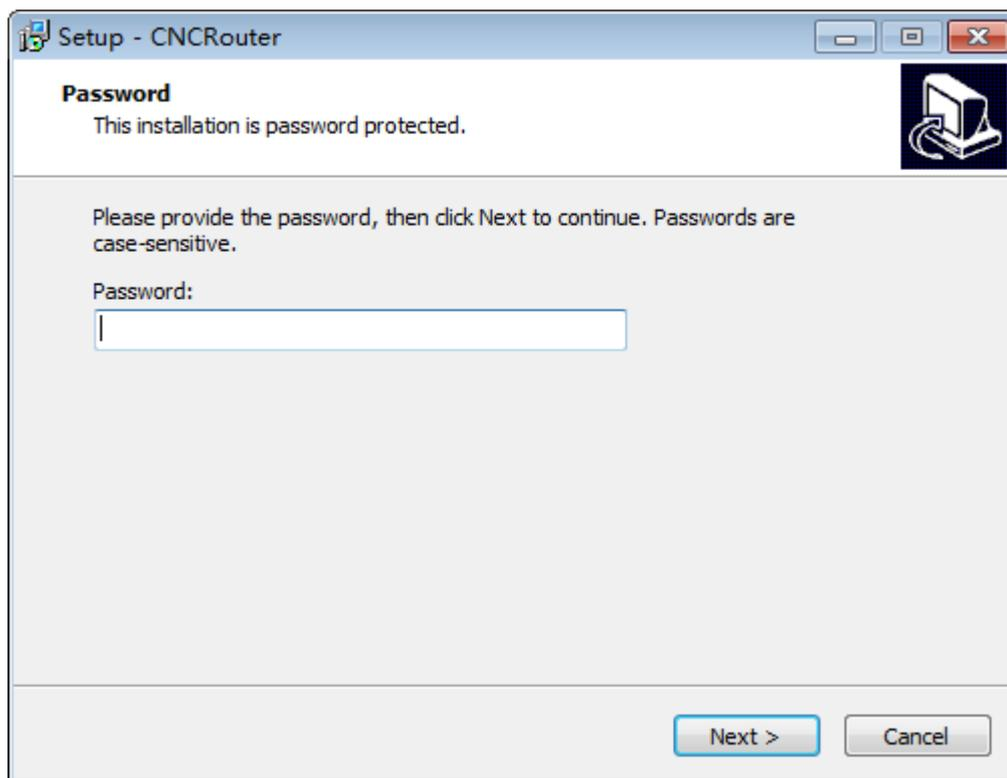

Figure 2.2-1
(1) First, get the latest version of cnc-router computer software from the manufacturer or agent, copy the installation files to the computer to be installed;
(2) Find the computer software installation package for the cnc-router system in the copy destination folder. The following number is version code, if you have more than one version of the installation package, please install the latest version;
(3) Double-click the icon to start installing computer software, which will pop up a verification window, password provided by the manufacturer or dealer. As shown in figure 2.2-1: